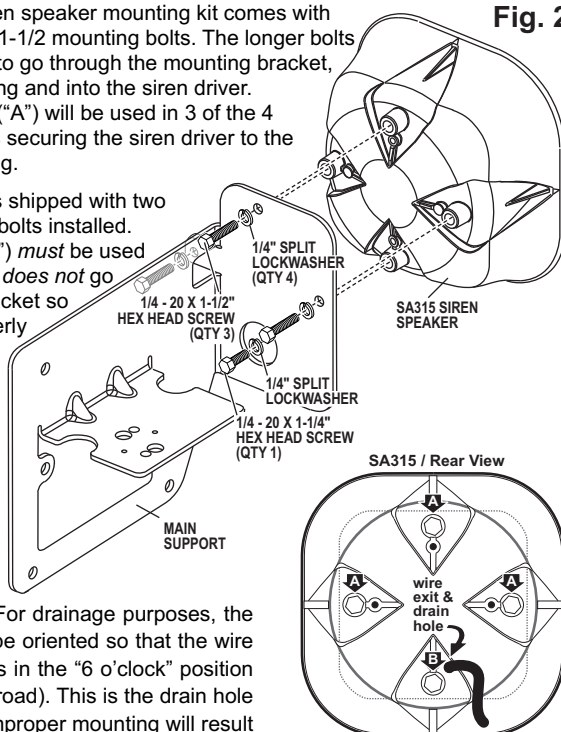

Fig. 2
**NOTE:** If your Explorer comes equipped with an SA315 speaker mounted to the vehicle, remove the speaker and its bracket. Secure the SA315 siren speaker to the main support (Fig. 2).